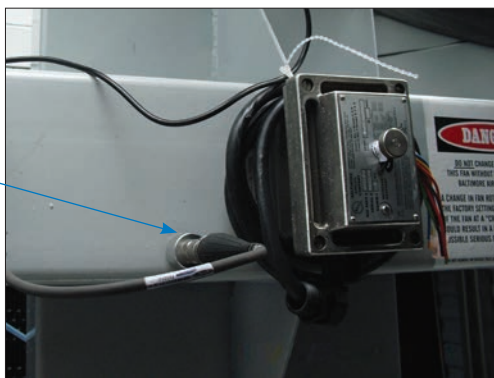

Figure 10. Accelerometer Location - Belt Drive
- Attach the accelerometer (provided by others) onto the box beam as shown in **Figure 10**. The accelerometer should be located away from the center of the web of the box beam, such that the center line of the accelerometer is about 1 inch from the upper or lower edge, as shown. On PF2/PC2-0406 and PF2/PC2-0412 units, the accelerometer should be located directly on the motor base.